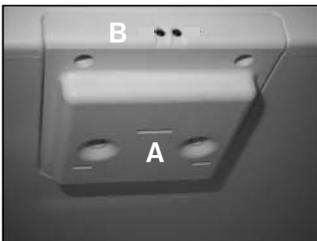
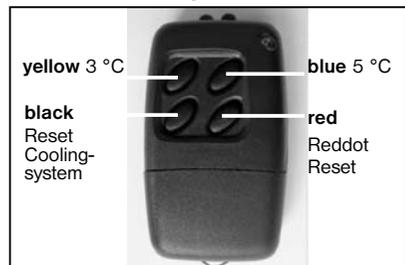

Figure 6.
Figure 9.
It is possible to modify the preset temperature value by using the remote control device. Please open the door and hold the remote control close to the door opening sensor (Fig. 6. B) of the minibar. Choose the desired temperature level by pressing either the yellow button for 3°C, or the blue button for 5°C.
The control system checks the function after every defrosting period (first defrosting phase commences 39 hours after the start, then later every 24 hours) by measuring the evaporator temperature drop. If it registers a problem the refrigerator will shut down and the LEDs of the interior light will begin to flash continuously. If this happens in many cases this is due to an overloading of the fridge (too many warm foods and/or drinks in), or the door was not properly closed, or the cooling unit ventilation is not correct and/or a refrigerator is not levelled. Please check and after that reset the refrigerator by using the remote control (Fig 9.) against the door opening sensor (Fig 6. B) and push the "black" button, or unplug the refrigerator at least for 10 seconds and plug it in again. This resets the unit and it will function again. If the continuous flashing comes back then there is a real problem with the cooling unit and you should contact the Dometic service.
### 8.1.1. Interior LED light (Fig. 6.) (cooled compartment)
2. Reset the door control signal by holding the Remote control (Fig. 9.) against the door opening sensor (Fig. 6. B) and push the "red" button.